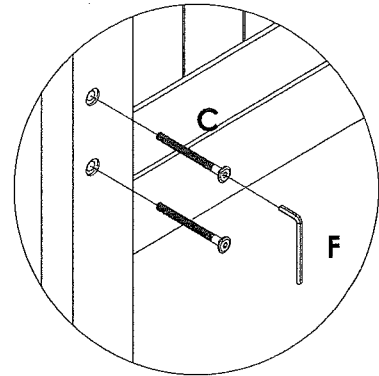

Figure 4
2. Attach the **Headboard** and **Footboard** to the **Side Rails** by using **JCBC Bolts (C)**, tighten it up by using an **Allen Key (F)** as shown in **Figure 4**.